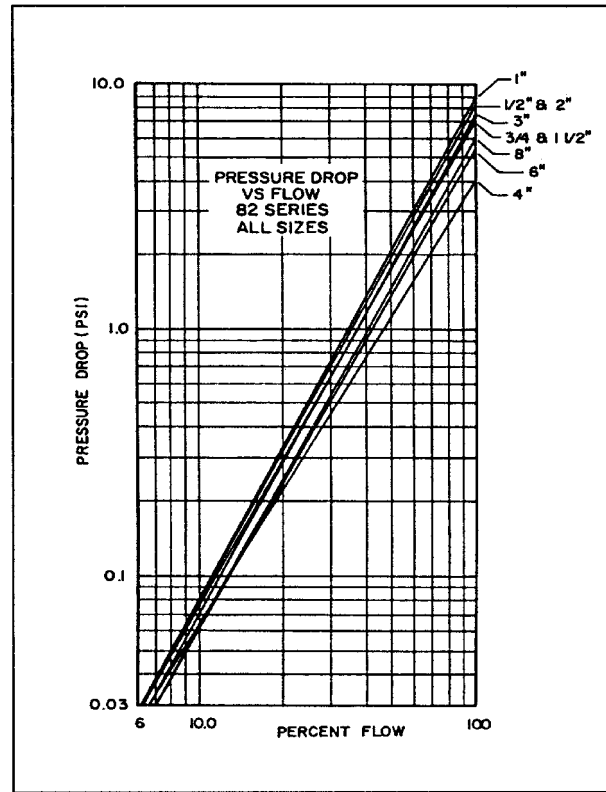

Figure 6. Pressure Drop vs Flow
Figure 6 is a graphic representation of equation (1) based on a fluid with specific gravity of 1.0 and absolute viscosity of 1.0 centipoise.